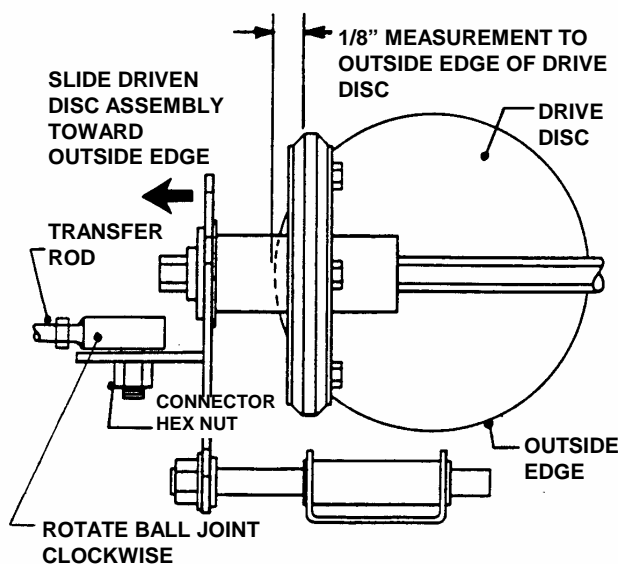

FIGURE 4.9
3. Slide driven disc assembly over to 1/8" from outside edge of drive disc. Maintaining the 1/8" measurement, remove any misalignment from the transfer rod linkage and the driven disc assembly anchor point. This can be done by loosening nut and rotating the transfer rod ball joint clockwise on the transfer rod until alignment with the driven disc assembly anchor point is achieved. Retighten ball joint nut. Insert ball joint into anchor point and reinstall the connector hex nut and tighten securely. See Figure 4.9. Move ground speed control to the first speed position, then back to the sixth speed position. Recheck the 1/8" measurement described previously. Reinstall driven disc spring to driven disc assembly.